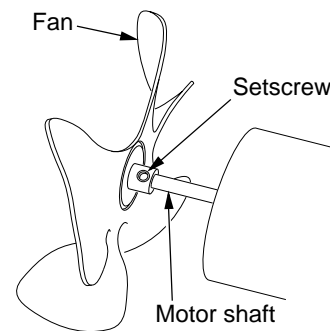

Figure 9 - Fan, Motor Shaft, and Setscrew Location
11. Use 1/8" hex wrench to loosen setscrew which holds fan to motor shaft (see Figure 9).